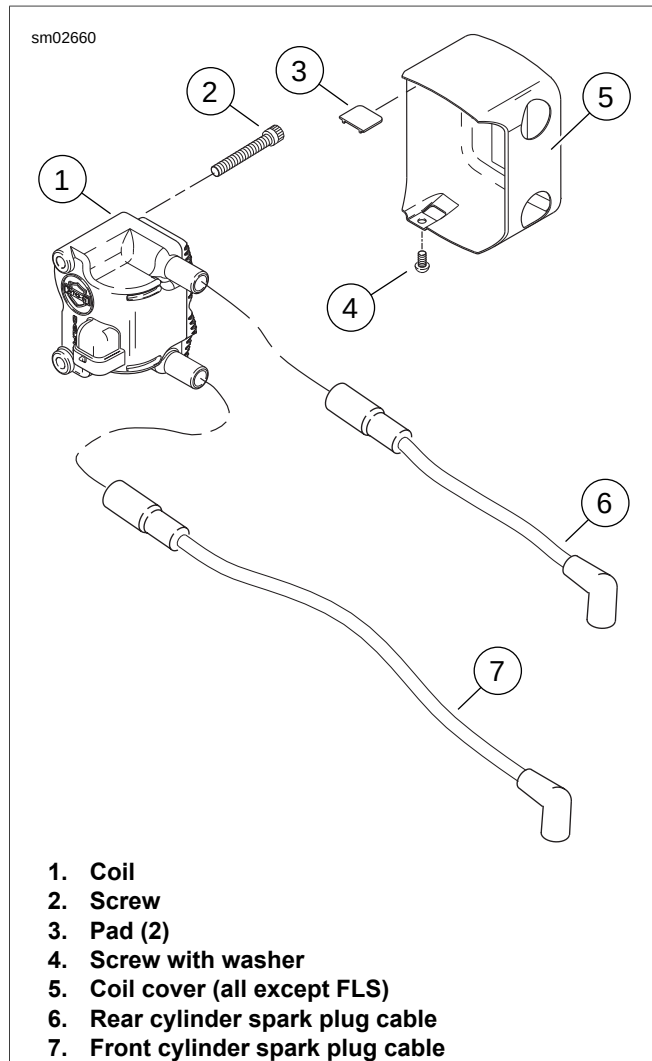

Figure 7-75. Coil (All Except FXS/B)
3. See Figure 7-75. Remove spark plug cables from coil.
4. Remove screw (4) to detach cover (5) from coil (1).
5. Remove two mounting screws (2) to detach coil from seat post.
1. See Figure 7-75. Attach connector [83] to backside of coil.
2. Position coil on seat post. Install two screws (2) and tighten to 120-180 **in-lbs** (13.6-20.3 Nm).
3. Fasten cover (5) to coil with screw (4). Tighten to 30-40 **in-lbs** (3.4-4.5 Nm).